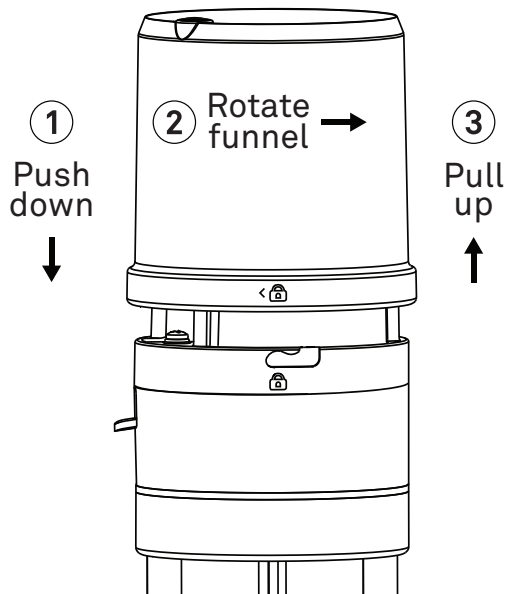

Figure 13 Removing ATMOS 41 Gen 2 rain funnel
3. Twist counter-clockwise to unlock from the ATMOS 41Gen 2 base until the lock/unlock graphic located on the side of the rain gauge funnel is lined up with the notch on the interface plate (Figure 13).